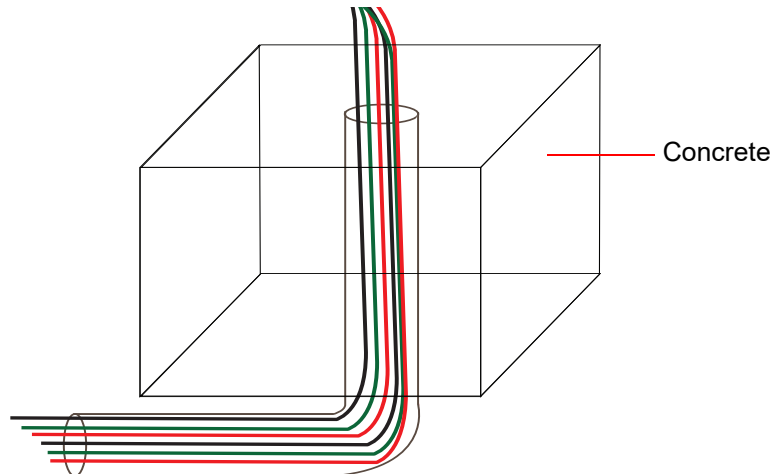

Figure 7. Concrete Base with Conduit and Wiring
1. Dig a hole a minimum of 12 in. H x 12 in. W x 12 in. D in which to pour a concrete foundation for the pole. Optionally, prepare a concrete form in the hole to contain and form the concrete. Insert the conduit into the center of the hole and route five feet of the necessary electrical wires through it (Figure 7). For more information about wiring, please see “WattZilla Electrical Wiring Instructions” \(page 12\).